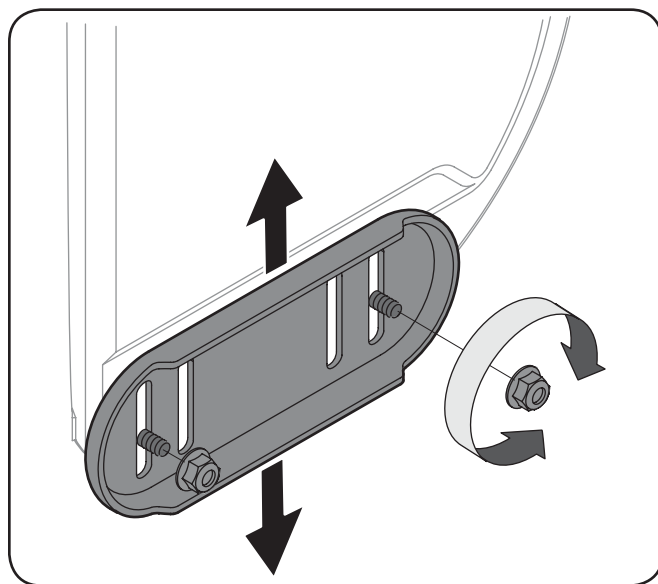

Figure 3-14
1. Loosen the four hex nuts (two on each side) and carriage bolts. Move the skid shoes to the desired position. See Fig. 3-14.